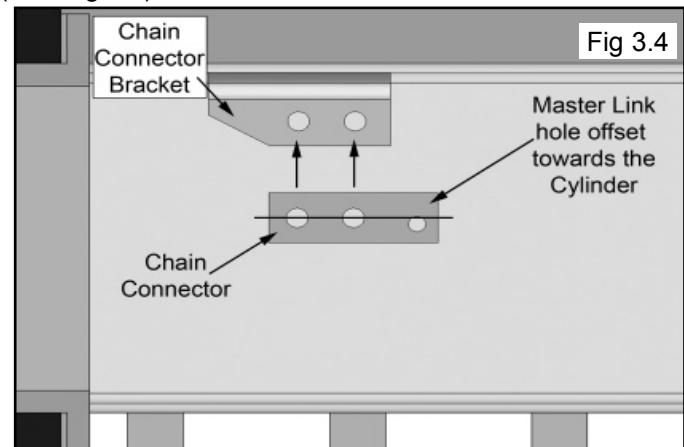

Fig 3.4
5. Determine the proper orientation of the Chain Connector. The Chain Connector must be installed with the Hole for the Chain Master Link offset as shown. (See Fig 3.4)